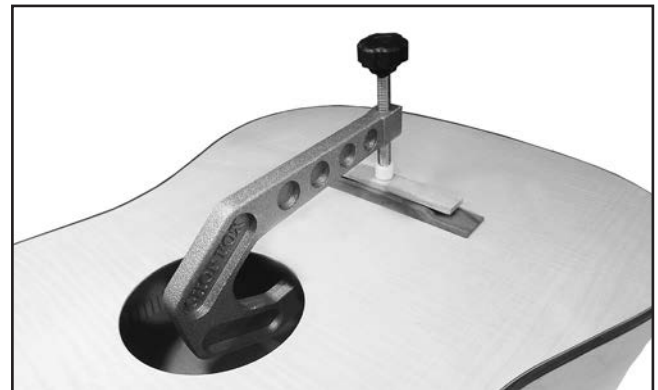

Figure 20. Bridge clamped in position.
4. Clamp bridge down with a bridge clamp or large depth C-clamp (see **Figure 20**).